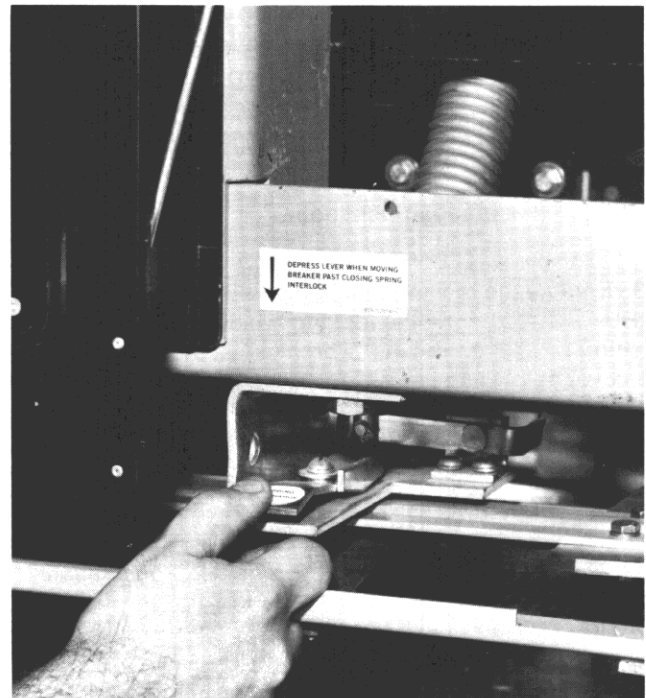

Fig. 5-12. Release lever used on manually operated breaker models in place of spring discharge interlock
NOTE: Manually operated breaker models do not employ a spring discharge interlock. It is unnecessary because their operating mechanism never statically position the springs in a fully charged state. However, to provide the necessary means for mechanically securing the breaker in the DISCONNECTED position, a position stop is employed. It has a release lever (Fig. 5-12) marked "Push to Withdraw" and is located in the same place as the spring discharge release lever on electrically operated breakers.
3. Open the door. On electrically operated breakers, depress the spring discharge lever (Fig. 5-12) to discharge the breaker's closing springs. While holding this lever depressed, pull the breaker all the way out to its WITHDRAWN position. On manually operated breakers, this release lever is labeled "PUSH TO WITHDRAW."